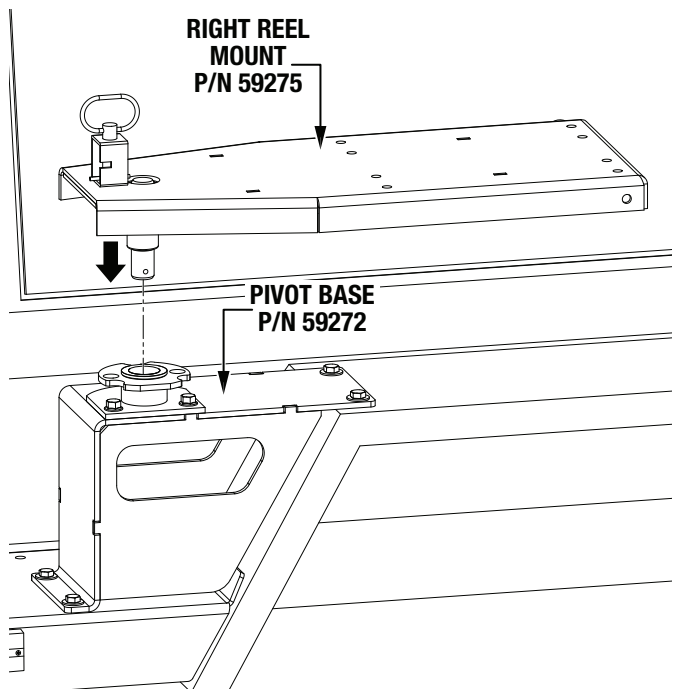

Figure 23. Reel Mount Installation
1. Insert the right reel mount (P/N 59275) into the pivot base (P/N 59272) as shown in Figure 23.